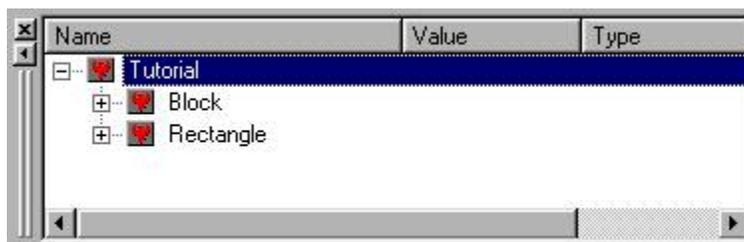

Figure 11. The Data Monitor with Configuration 1 expanded
7. In the **Data Monitor**, select **Tutorial**; it will expand, as shown below in Fig. 11.